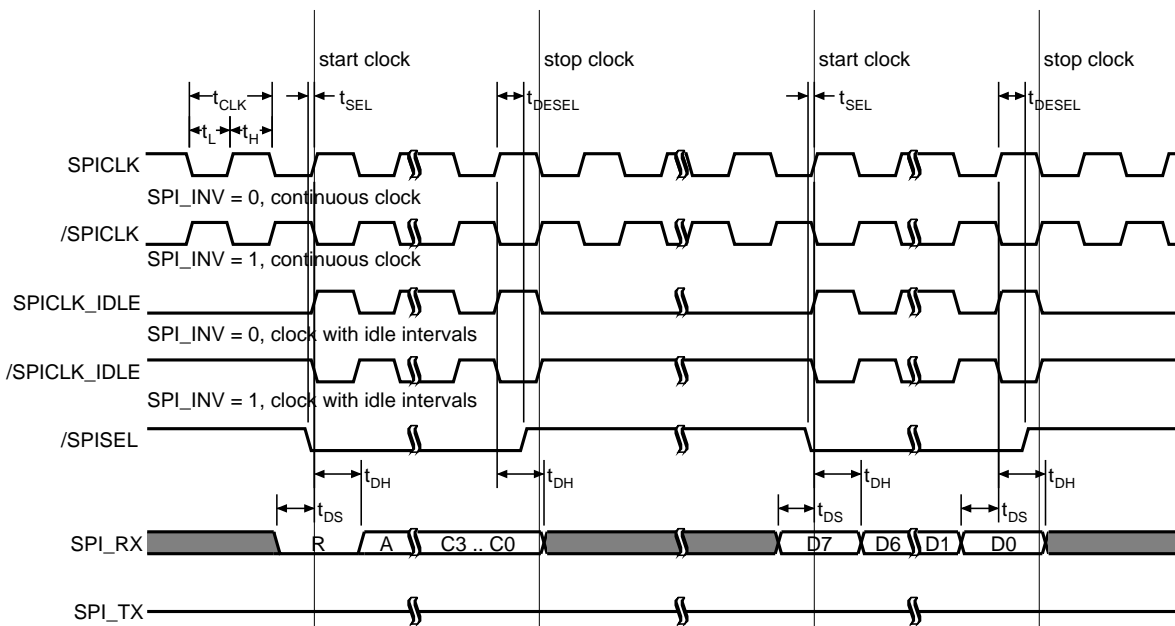

Figure 2.20: SPI timing diagram for data write transactions
Figure 2.20 shows the timing diagram for data write transactions (data from master to slave). Four different variations of the SPI clock are shown. SPI clock can be inverted with  $SPI\_INV = '1'$ . Further, idle intervals are allowed during non-selected phases where  $/SPISEL = '1'$ . During idle intervals, SPI clock must be low for  $SPI\_INV = '0'$  and it must be high otherwise.
When the SPI access is splitted by the SPI master, the rising edge of  $/SPISEL$  is required to be  $t_{DESEL} \geq 2\text{ns}$  after the sampling time at the earliest. When clock idle intervals are used, it is necessary to have at least one clock edge after the last sample edge (marked with 'stop clock' in Figure 2.20). This is important to terminate the access internally.
The timing diagram for data read transactions (data from slave to master) is shown in Figure 2.21. The same different variations of the SPI clock which are shown in Figure 2.20 are valid for data read
**Table 2.17:** Symbols of write access in Figure 2.20